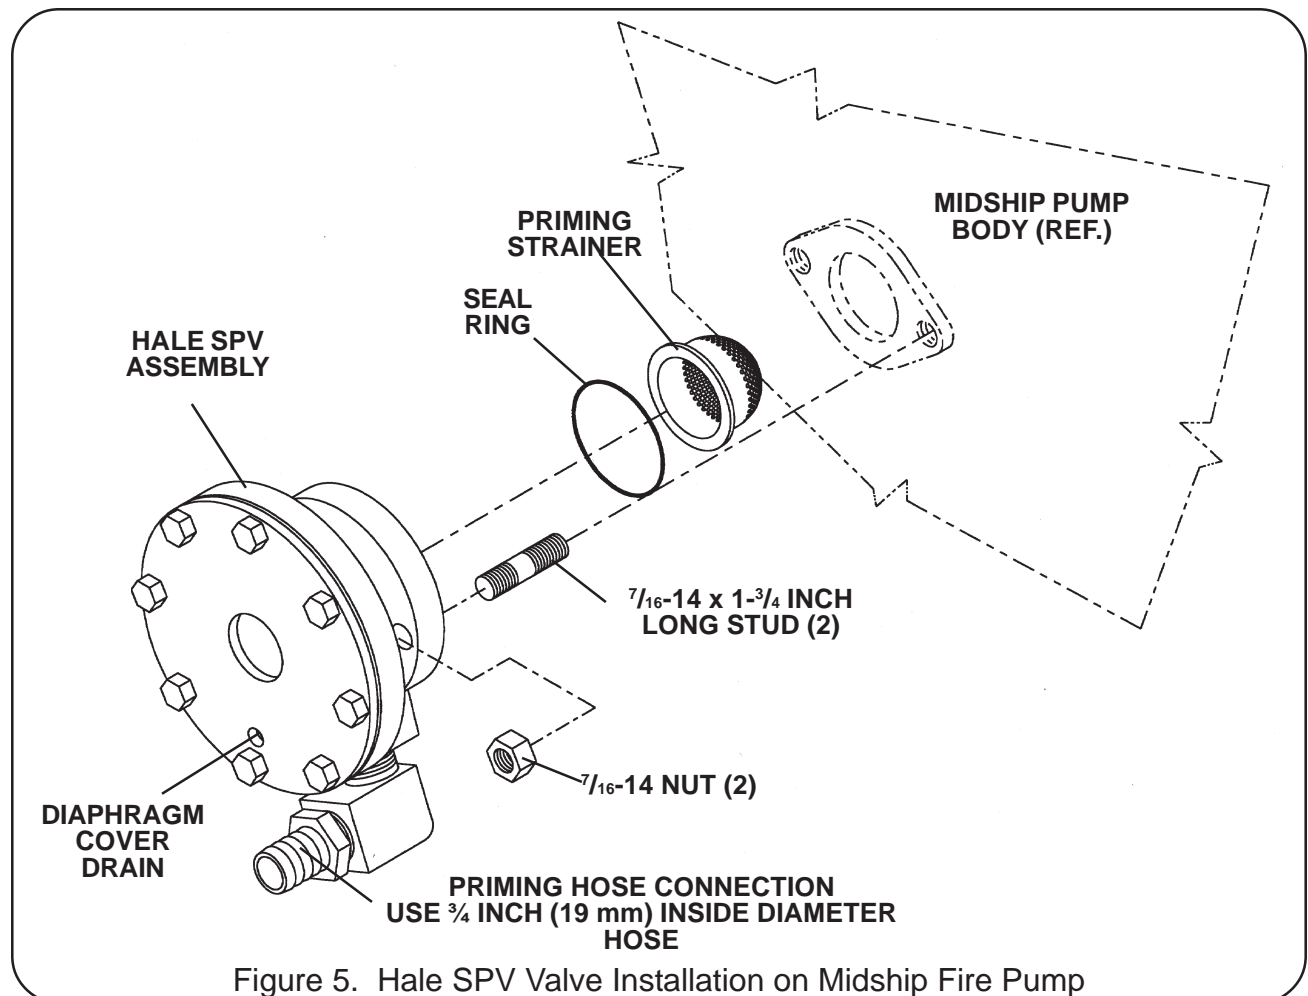

Figure 5. Hale SPV Valve Installation on Midship Fire Pump
When installing the Hale SPV as a retrofit on a midship fire pump the following procedures shall be followed. (Refer to figure 5)
7. Locate the priming valve flange on the midship pump. (Refer to figure 5) The priming valve flange is located next to the gearbox on the midship pump.